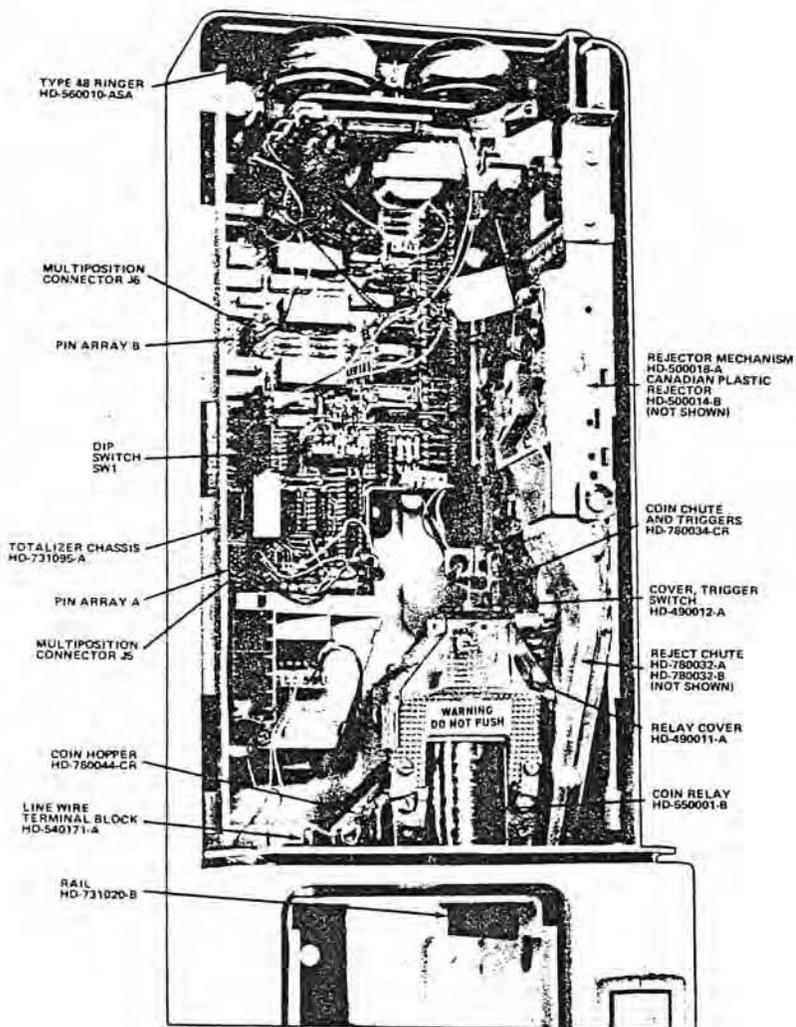

Figure 7. Interior View of Lower Housing.
2.04 Replace Figure 7 with Figure 7 of this addendum.